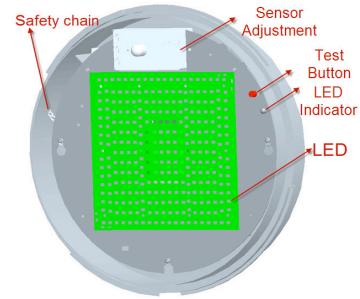

Fig2
- Unscrew the 3 fixing screws (see Fig 2) to remove the LED gear tray and gain access to the terminal block.